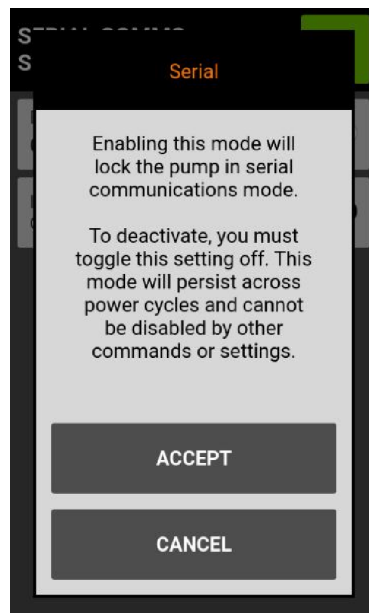

Figure 11: Serial screen
- To enable locked mode, toggle the setting and tap **Accept** on the popup (see Figure 11)